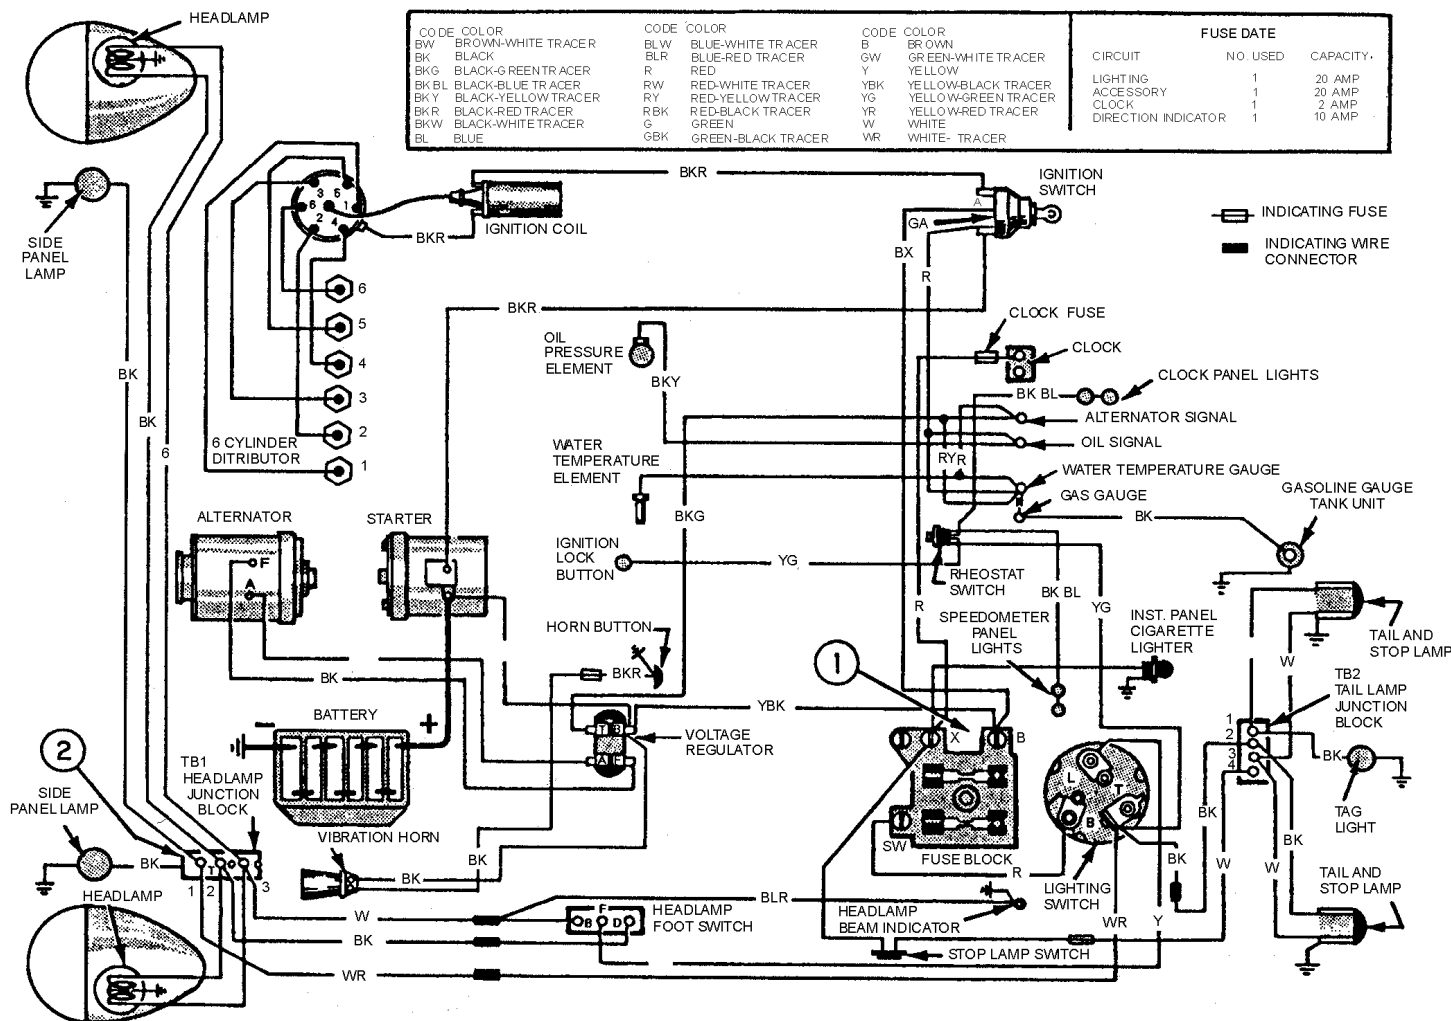

Figure 3-11.—Wiring diagram.
A wiring diagram is a detailed diagram of each circuit installation showing all of the wiring, connectors, terminal boards, and electrical or electronic components of the circuit. It also identifies the wires by wire numbers or color coding. Wiring diagrams are necessary to troubleshoot and repair electrical or electronic circuits. The wiring diagram for an automobile is shown in figure 3-11. It shows all the electrical components and that the interconnecting wiring is color coded.
On the schematic shown in figure 3-11, you can see that there are numerous connections to point (2). Point (2) on the wiring diagram is actually composed of three different functions: terminal 1 of TB 1 (the head lamp junction block), terminals 1 and 2 of TB2 (the tail lamp junction block), and the "T" terminal of the light switch; all correspond to point (2) on the schematic. The fault here is in the tag light, which normally receives its +12 volts from terminal 1 of TB2.